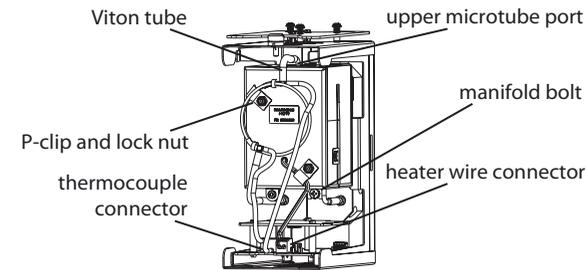

Figure 9: Disconnecting the heater block
- Disconnect the Viton tube from the upper micro tube port. Discard the Viton tube (Figure 9). Replacement Viton tubing is supplied with the new heater block.